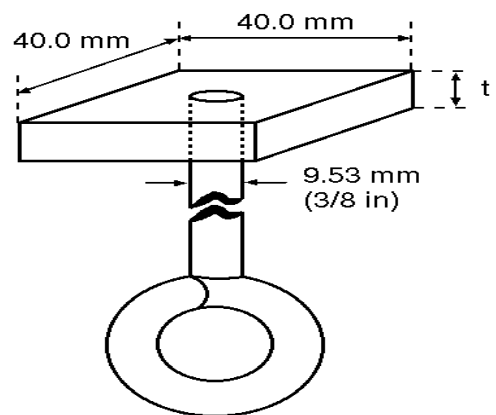

Figure 2. Loading Plate Detail
- a. The load will be applied by means of a 40. mm square plate (see Figure 2) with a thickness (*t*) of at least 6 mm but less than 13 mm. A 9.53 mm (3/8 inch) diameter eyebolt is attached from below to the center of the plate. The plate will be horizontal and will be mounted with two edges parallel to the longitudinal axis of the bridge. Masses will be supported on a vertical loading rod suspended from the eyebolt. The minimum initial load will be 2. kg.